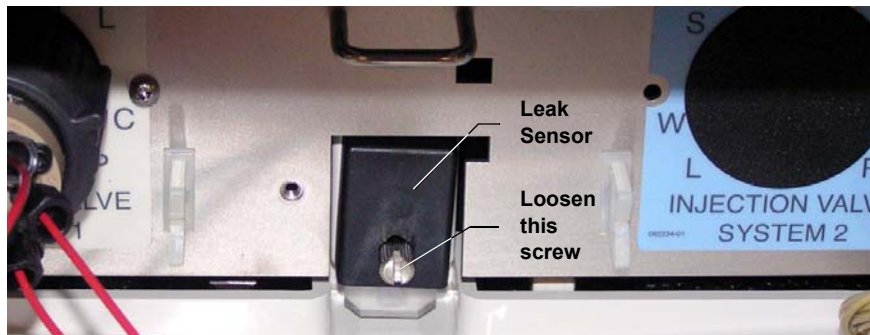

Figure 9-34. Leak Sensor
4. Loosen the screw on the front of the leak sensor (P/N 062437) (see Figure 9-34). **Note:** The screw remains attached to the sensor.